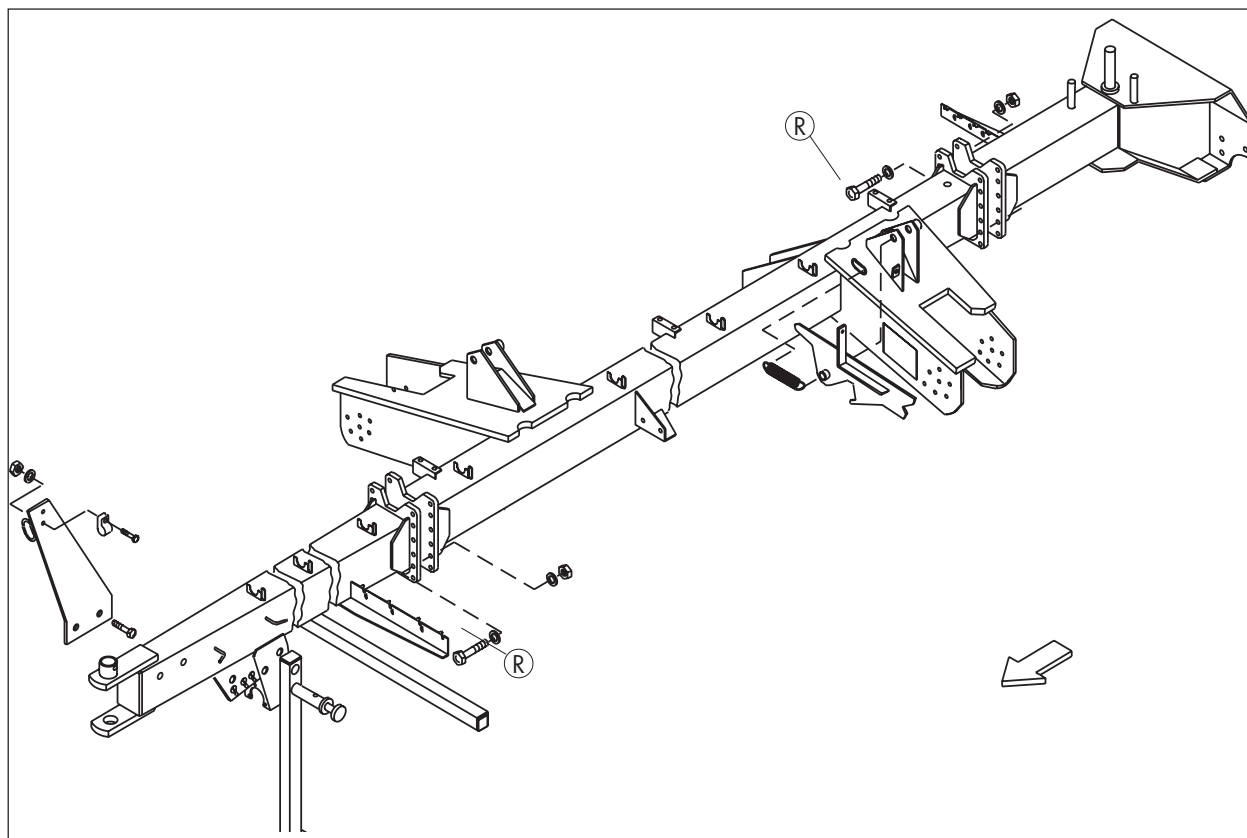

Fig. 3-1
Screw the three longitudinal supports together with M 16 screws (R) (fig. 3-1).